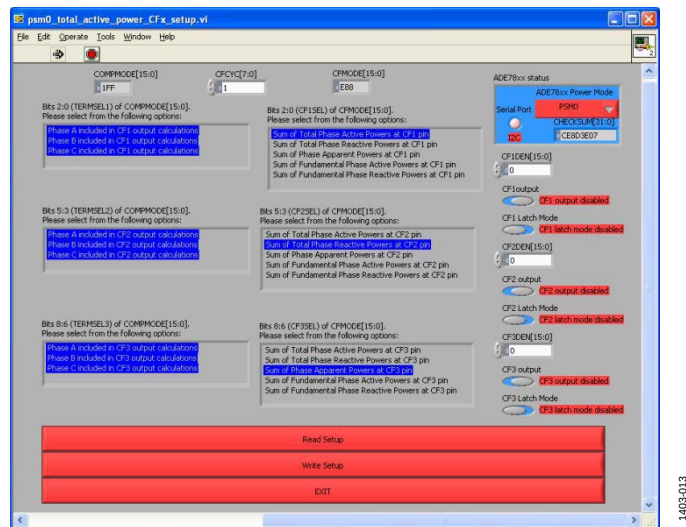

Figure 13. CFx Configuration Panel
3. Click **CFx Configuration** to open a new panel (see Figure 13). This panel gives access to all bits and registers that configure the CF1, CF2, and CF3 outputs of the ADE7854A/ADE7858A/ADE7868A/ADE7878A. **Read Setup** and **Write Setup** update and display the CF1, CF2, and CF3 output values.